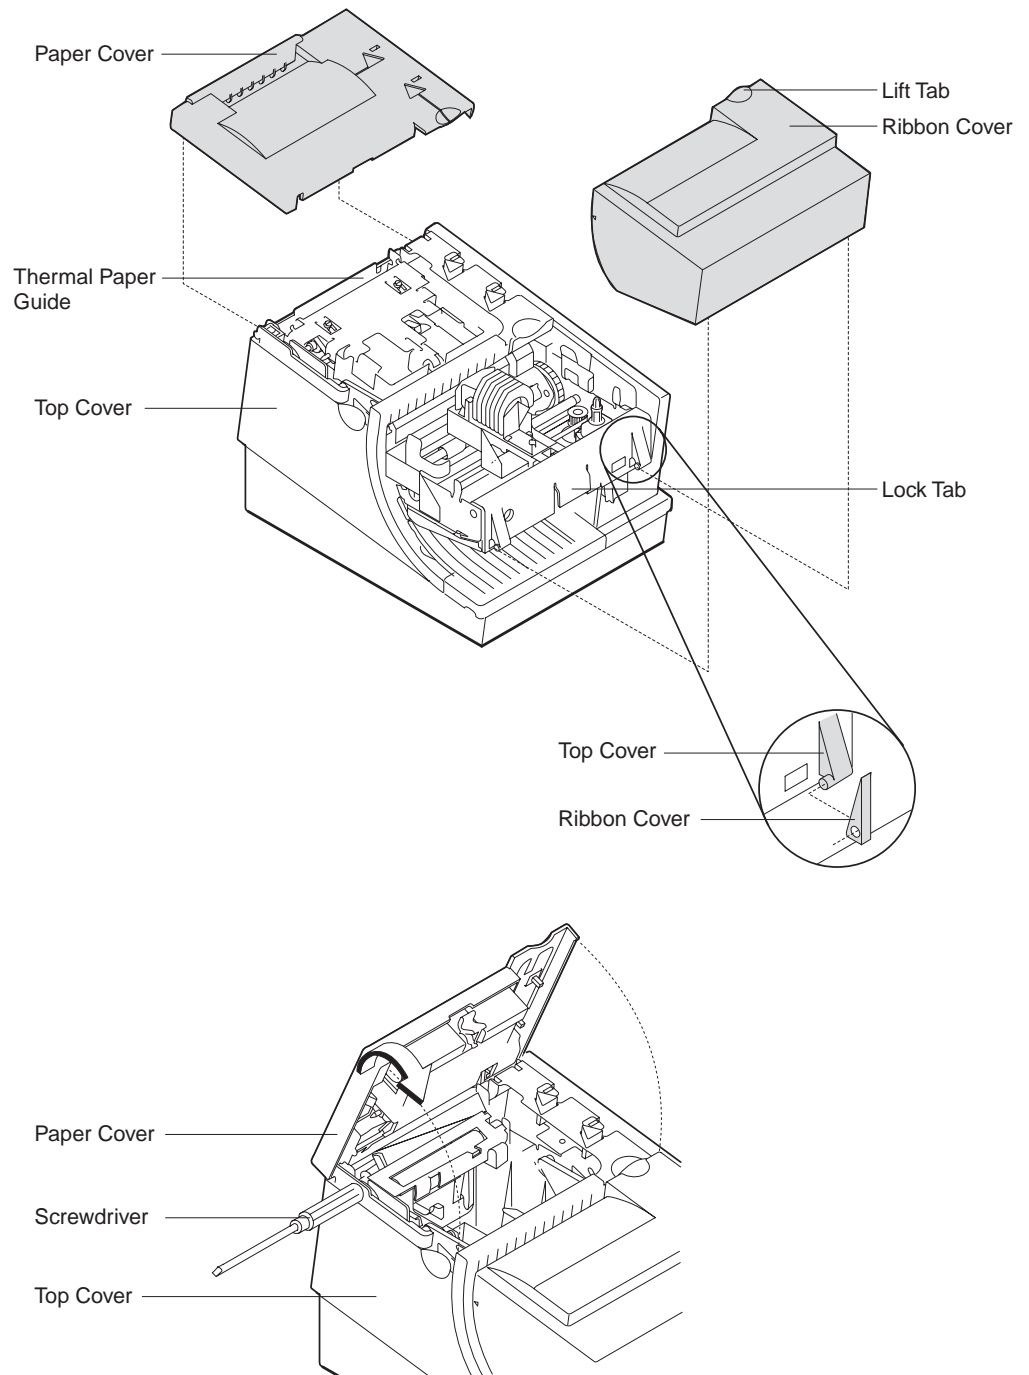

Figure 5. Removing the Paper and Ribbon Covers
4. See Figure 5 on page 9. Open the **paper cover**. Place the top of the screwdriver handle between the side of the printer and the top cover. Then close the top cover on the screwdriver, one side at a time. This frees the pivots on both sides. Slide the paper cover forward and out.